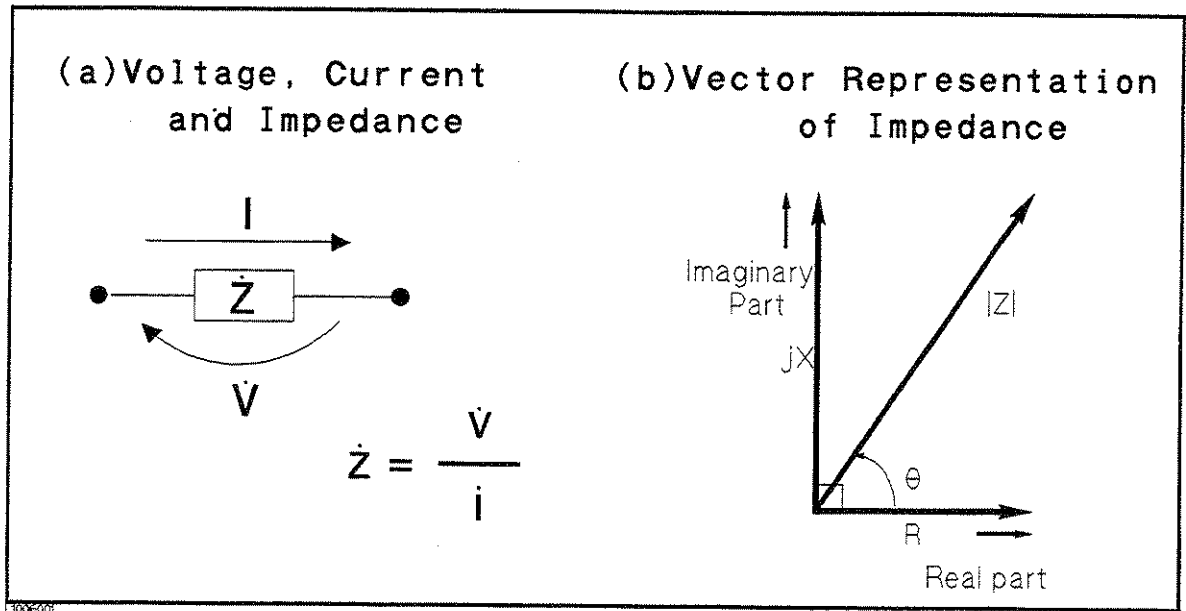

Figure 6-1. Definition of Impedance
Figure 6-1 (A) shows the impedance definitions and (B) shows vector representation of impedance. Impedance,  $Z$  is the total opposition that a circuit or device offers to the flow of alternating current at a given frequency.  $Z$  contains a real and an imaginary part, and it is expressed in rectangular form as Resistance and Reactance, or in polar form as magnitude of Impedance and Phase as follows.